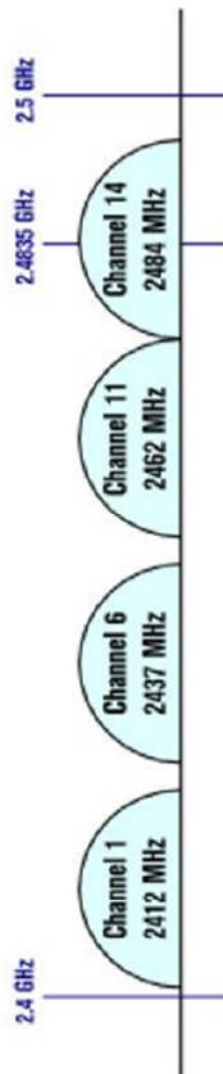

**Figure 1**
- i. Each team is required to command and monitor their mining robot over the NASA provided network infrastructure shown in Figure 1.